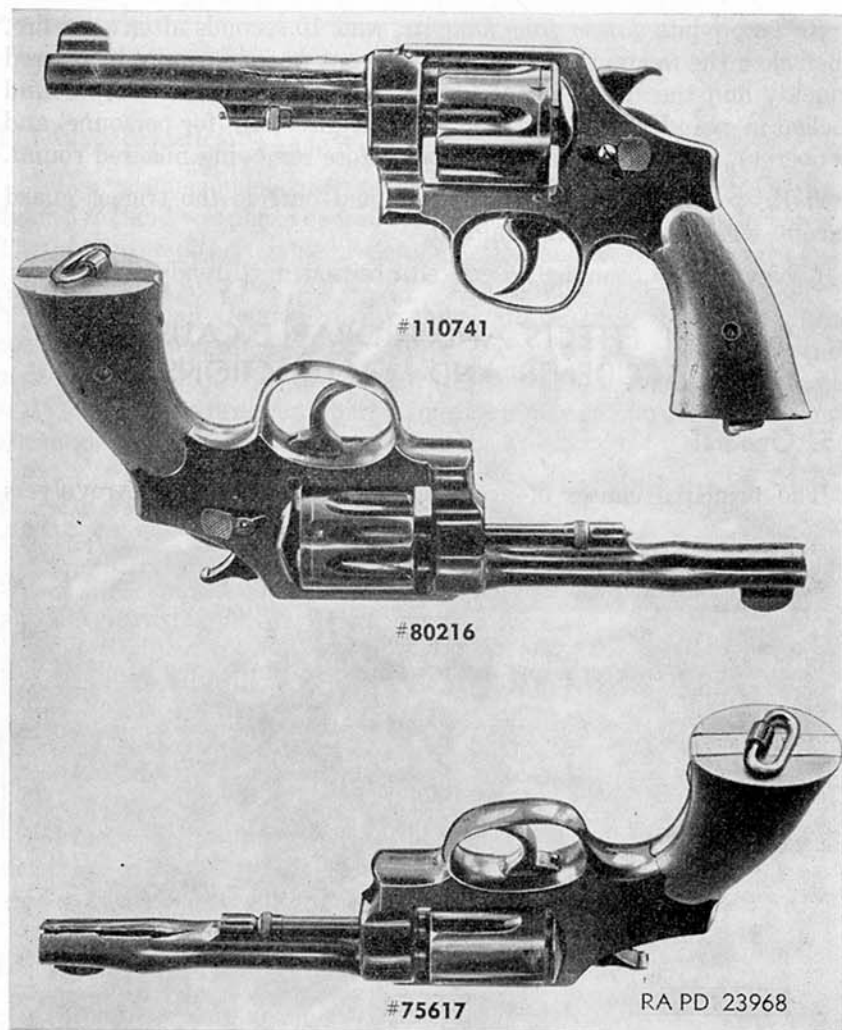

Figure 2. Damage from firing with bullet lodged in bore, cal..45 Smith and Wesson revolvers M1917.
- (1) Figure 2 pictures three revolvers that were damaged by firing a normal round with a bullet lodged in the bore. A cartridge that contains damp powder may have insufficient power on igniting to force the bullet from the muzzle, or the bullet may remain in the barrel because of other defects in the ammunition. Note, in all three weapons, the bulge produced at the point of obstruction and the split in the barrel.
- (2) Rust and pits in the bore of a revolver may obstruct the passage of a bullet and cause an accident.